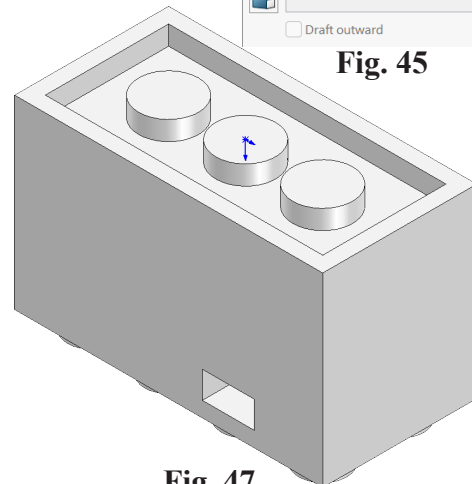

**Fig. 45**
Step 18. In the Cut-Extrude Property Manager set: **Depth 2** under Direction 1, **Fig. 45**